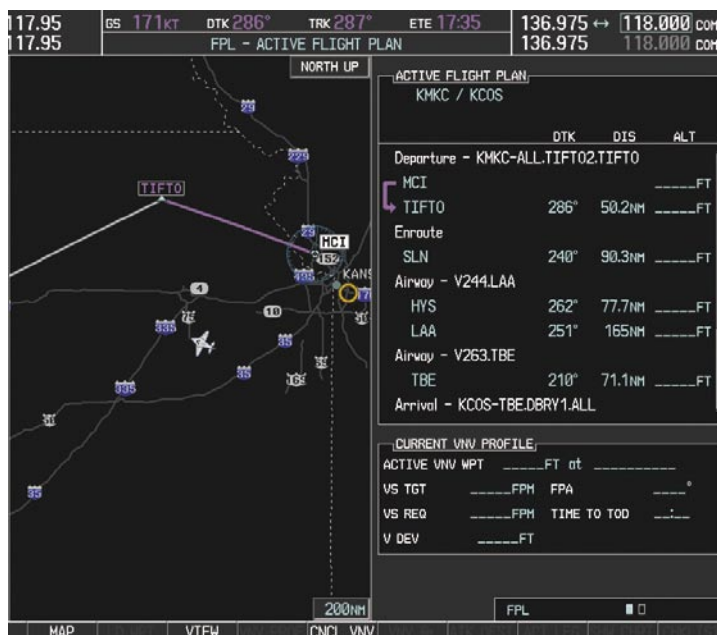

Figure 5-101 Assigned Heading of 290°
- 1) Prior to departure, the TIFTO2 departure, the airways, and the DBRY1 arrival at KCOS are loaded. See the Procedures section for loading departures and arrivals. Note the magenta arrow in Figure 5-101 indicating the active departure leg.
- 3) ATC now assigns routing to join V4. A heading of 290° is assigned to intercept V4. The aircraft turns to heading 290° as seen in Figure 5-101.